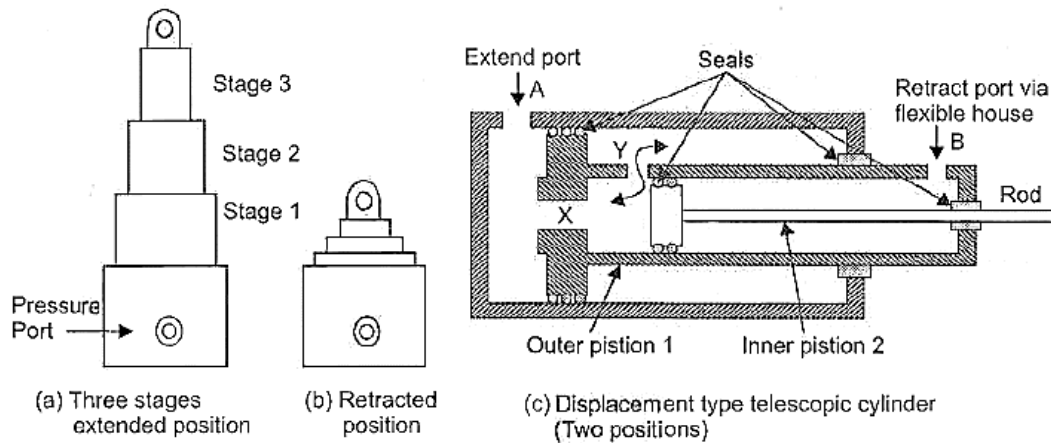

Fig.5.10 Telescopic cylinder
- ▶ A telescopic cylinder (shown in Fig.5.10 (a) and (b)) is used when a long stroke length and a short retracted length are required. It extends in stages, each stage consisting of a sleeve that fits inside the previous stage. Fig.5.10 (c) shows the construction of a typical double acting telescopic cylinder with two pistons (two stages).